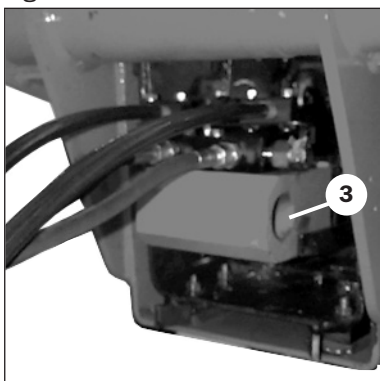

Fig. B1
- Secure clamp support 4 (Fig. B1).
- If necessary, undo the 6 clamps (Fig. B1), and withdraw the twinned hoses in order to achieve correct alignment.
- Loosen nut 5 (Fig. B1) and unscrew it completely using a box wrench. Or depending on the version, remove locking screw 6 (Fig. 1) using a hexagonal wrench.
NOTE : Locking ring 6 (Fig. B1) is fitted using Loctite, then blocked by striking it with a chisel